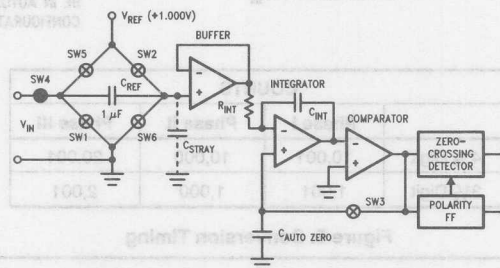

Figure 4B: Phase II Integrate Input
2. INPUT INTEGRATE PHASE II (Figure 4B)